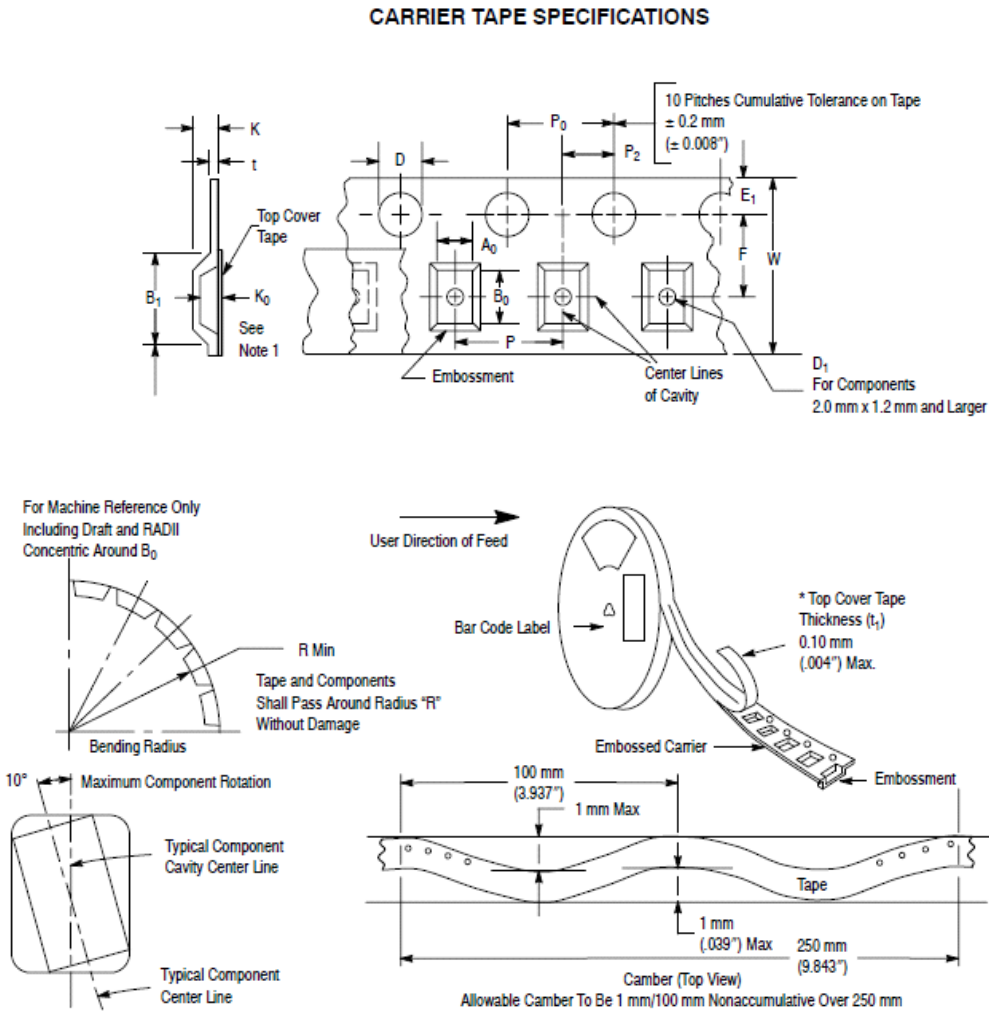

Figure 13. Tape and Reel Example
- Freescale complies with EIA-481B and EIA-481C for carrier tape and reel configuration - See Figure 13.